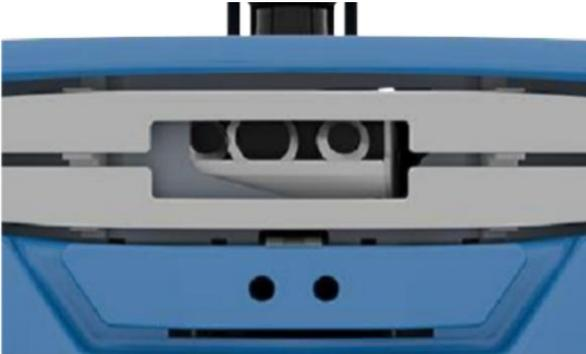

Fig. 24: 3D sensor
2. Then pull the trolley handle forward slightly and remove the two spring cotter pins above the drive wheels (see Fig. 24: Position of the spring cotter pin on the right).